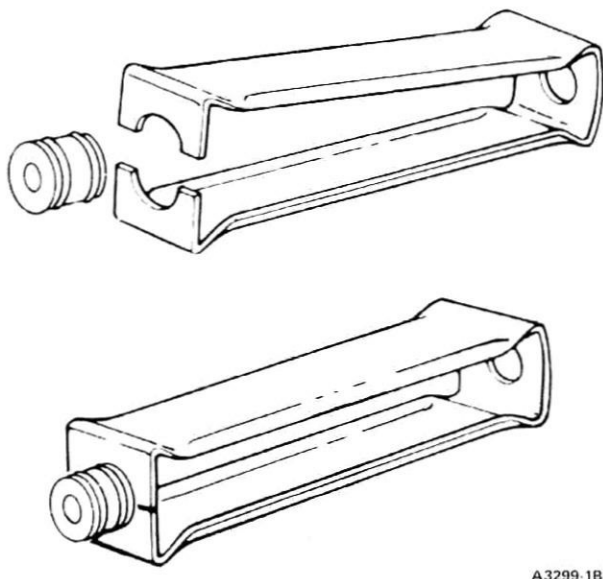

FIG. 9 Removing or Installing Valve Stem Seal
5. Remove the valve stem seal (Fig. 9). If air pressure has forced the piston to the bottom of the cylinder, any removal of air pressure will allow the valve(s) to fall into the cylinder. A rubber band, tape or string wrapped around the end of the valve stem will prevent this condition and will still allow enough travel to check the valve for binds.
1. Install a new valve stem seal (Fig. 9). Position the spring over the valve. Install the spring retainer. Compress the valve spring and install the valve spring retainer locks.